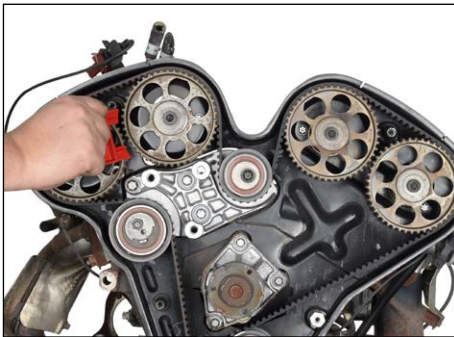
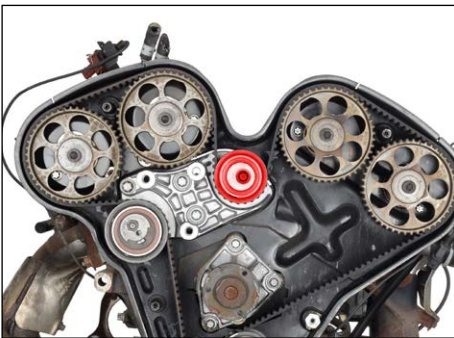

Fig. 5
Fig. 7
3. Place the retaining tool for camshaft OE (KM-800-1) red with the designation “Top” on top between camshaft gears “1” and “2” (Fig. 5 and 6). If the retaining tool cannot be inserted, then remove the top timing belt bend pulley (Fig. 7) and turn it on the cam with chuck key MKM-6038 or water pump pliers until the tool can be inserted.